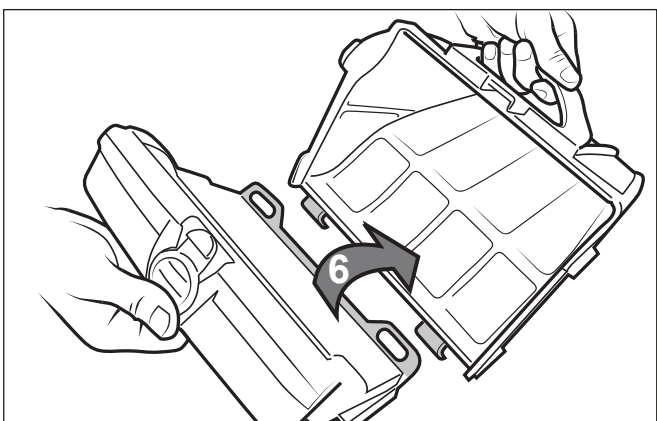

Figure 16. Remove Filter Canister
6. Separate the filter canister from the filter support (6), as shown in Figure 16.